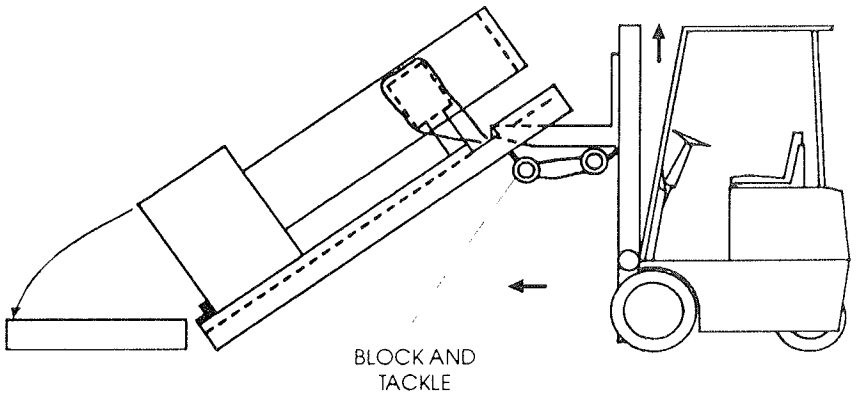

Figure 3-4. Lifting the Load Frame
- (f) Attach a small block and tackle to the crosshead. Pass the line from the block through the opening in the shipping skid and around a crossbar on the forklift to a point where the operator can control the line. Refer to Figure 3-4.